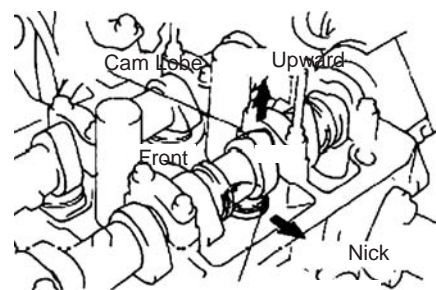

Figure 17
7. Adjust exhaust valve clearance. See (Figure 17)